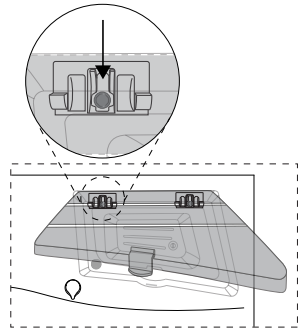

Figure 12.1g
2. Pull on the lid, slightly, to release it from the locking bolt, Figure 12.1g.
3. You need to align the locking bolt with the release slot in order to remove the lid, Figure 12.1g.